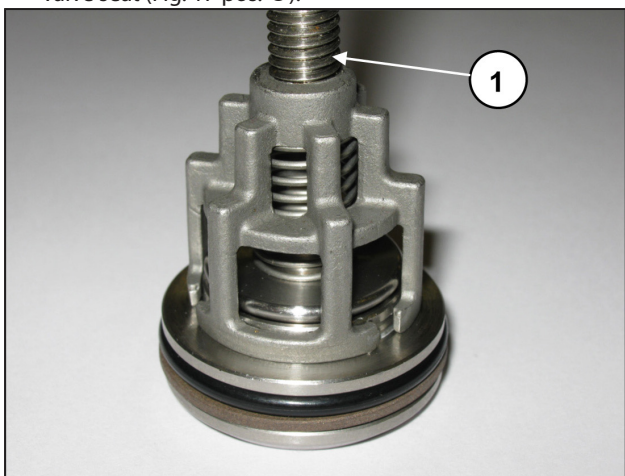

Fig. 17
- Disassemble the suction and outlet valve units, screwing a sufficiently long M10 screw in such a way as to be able to reach the valve plate and extract the valve guide from the valve seat (Fig. 17 pos. ①).